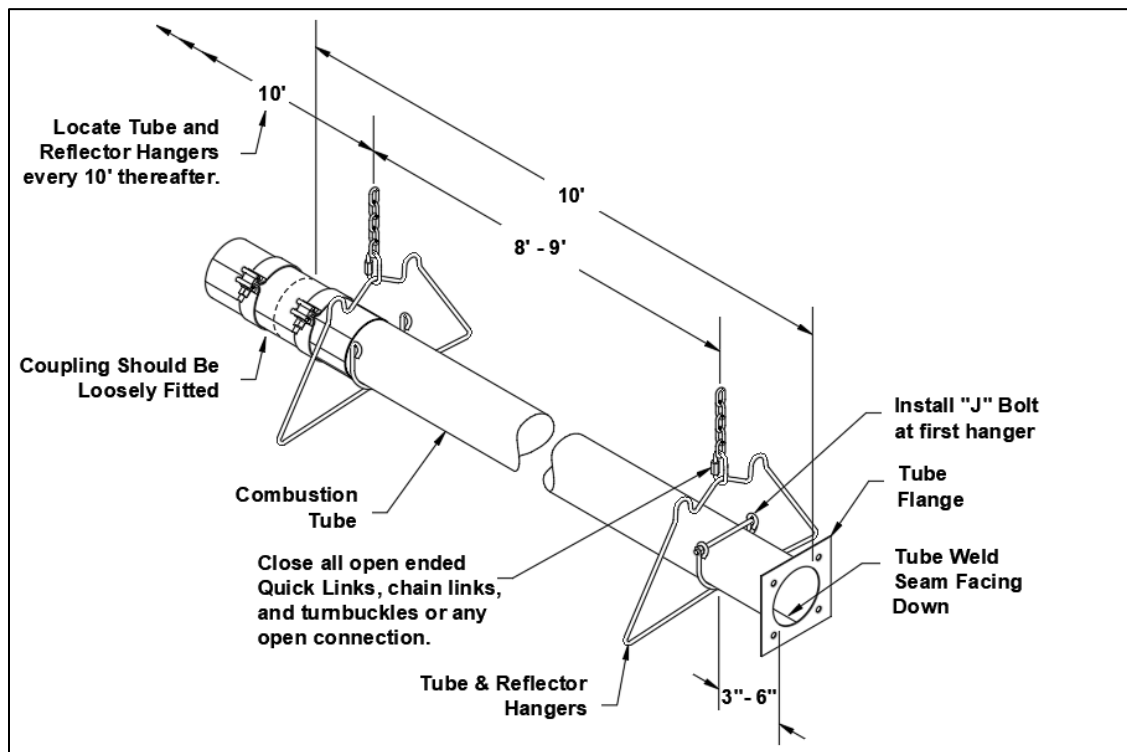

Figure 10: Installation of First section of Flanged Tube
- Place the first (flanged, aluminized) tube in the first two hangers (Figure 10). Be sure the flange is toward the intended burner location. The other end of the tube should have the first coupling already loosely fitted.
- Always use all the hangers supplied. As a rule the combustion tube (first tube) utilizes 2 hangers and thereafter 1 hanger per 10' section. It is required that the first hanging point be 3" to 6" from the burner mounting flange, and tube weld seam must face down, refer to Figure 10 for more details.